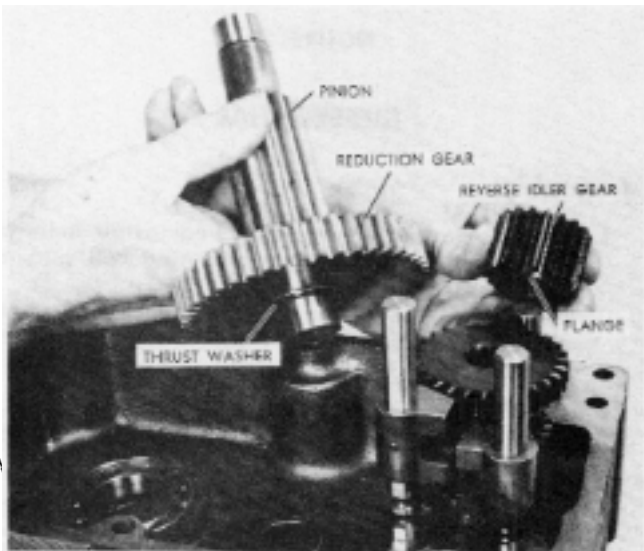

FIGURE 17
- Install the reverse idler and the large pinion and reduction gear assembly (and the thrust washer if used), as shown in Figure 17, making sure that the flanged end on the reverse idler goes down.